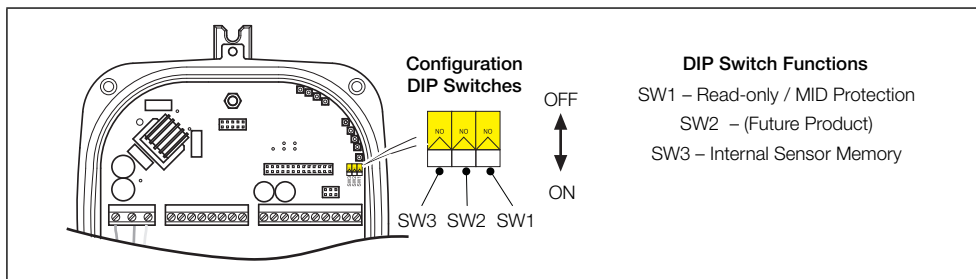

Fig. 3.20 Configuration DIP Switches
4. For high integrity / security installations, set DIP switch SW1 to the 'ON' (Read-only) position – see Fig. 3.20, page 22.
5. Align the transmitter cover with the housing and tighten the four cover screws (C) carefully.
6. For flowmeters ordered with the MID option or high integrity / security installations, it is a legal requirement that at the end of installation the flowmeter is sealed to prevent unauthorized modification or operation of the flowmeter. A suitable anti-tamper seal must be fitted to the security feature (D), such that in the event of unauthorized tampering, it is clearly visible if the fitted legal metrology seals have been broken.
Note. If this screen is displayed on an integral transmitter, check that DIP switch SW3 is in the 'ON' position (refer to Fig. 3.20, page 22).
To correct this condition, set DIP switch SW3 to the 'OFF' position (refer to Fig. 3.20, page 22).